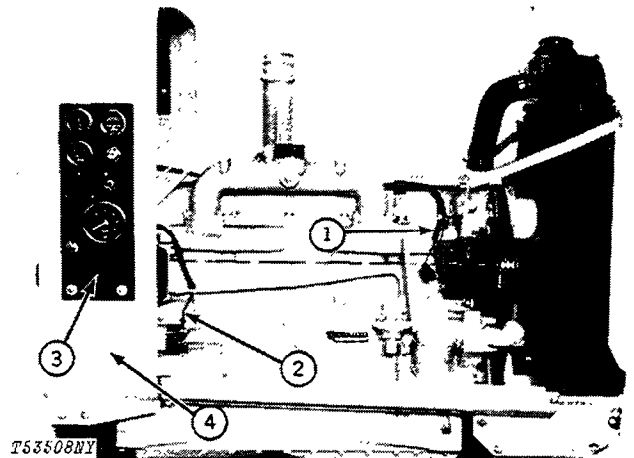

Fig. 9-Solenoid and Alternator Wiring
Disconnect alternator wiring (1, Fig. 9) from alternator.
Disconnect solenoid wiring (2, Fig. 9) from solenoid.
Remove rear shroud (4, Fig. 9) with instrument panel (3) attached.
Install rear shroud (4, Fig. 9) with instrument panel (3) attached.
Connect solenoid wiring (2, Fig. 9).
Connect alternator wiring (1, Fig. 9).